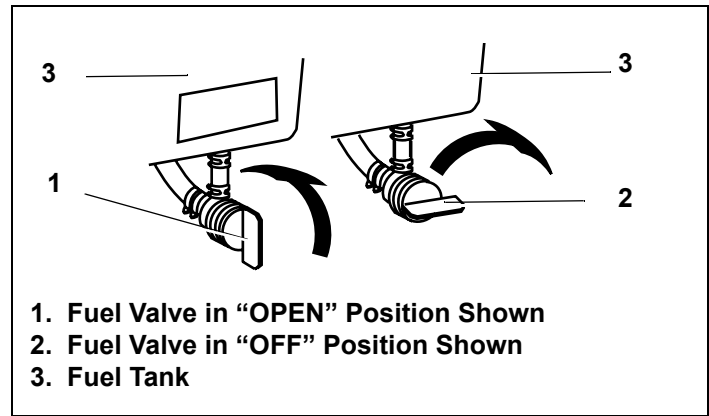

Figure 21. Optional Fuel Valve
2. Be sure fuel valve is open, if provided. See Figure 21.